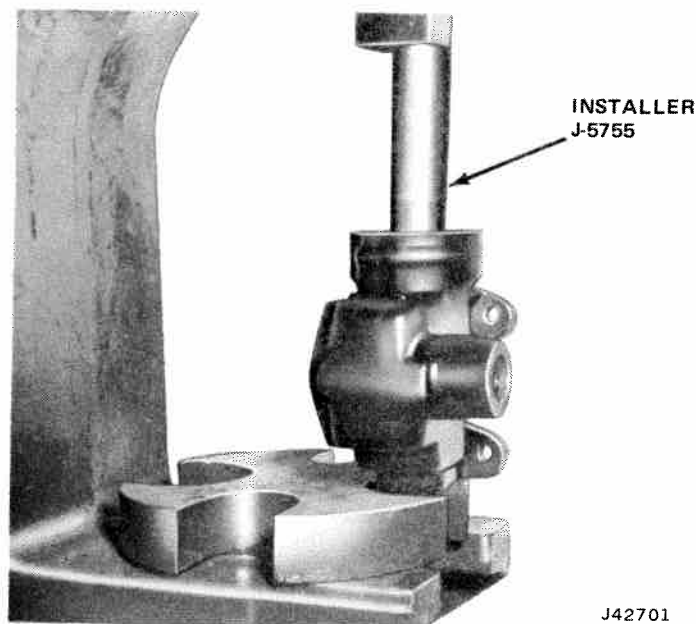

Fig. 11-41 Pressing in Bearing Cup
(4) Position clamp over two ball guides and secure with three bolt and washer assemblies.
(5) Rotate worm through its complete travel several times to ensure that balls are installed correctly and rotate freely. Do not allow ball nut to hit end of worm travel; this could damage ball return guides.
(6) If bearing cups were removed from worm adjuster or housing, press in a new bearing cup, using Worm Shaft Bearing Cup Installer J-5755 (fig. 11-41).
(7) Install upper worm bearing on upper part of wormshaft and center ball nut on worm.
(8) Install assembly in housing with bearing seated in bearing cup.
(9) If bearing was removed from worm adjuster, install a new bearing and retainer in worm adjuster.